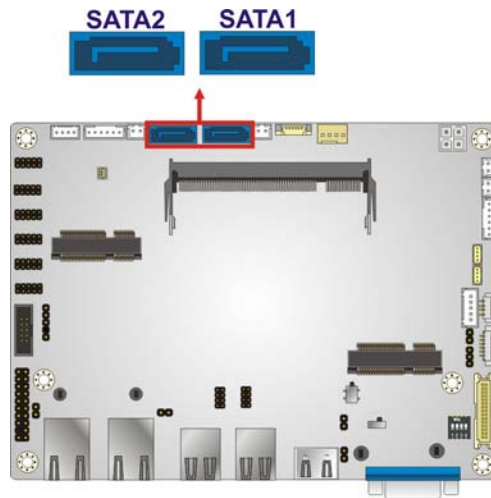

Figure 3-22: SATA 6Gb/s Drive Connector Location
- CN Location: See **Figure 3-22**